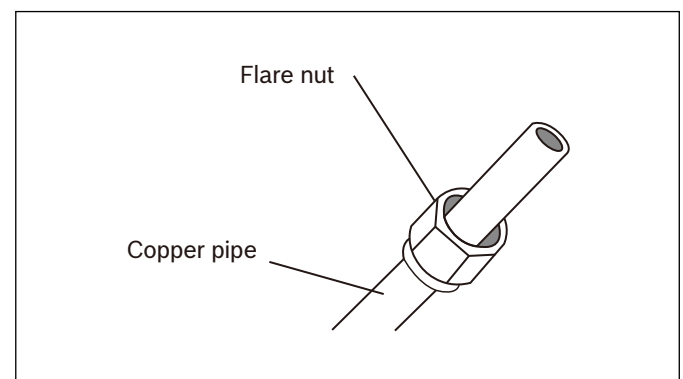

Figure 14
3. Place flare nuts on both ends of pipe. Make sure they are facing in the proper direction, because you can't put them on or change their direction after flaring. See Figure 14.